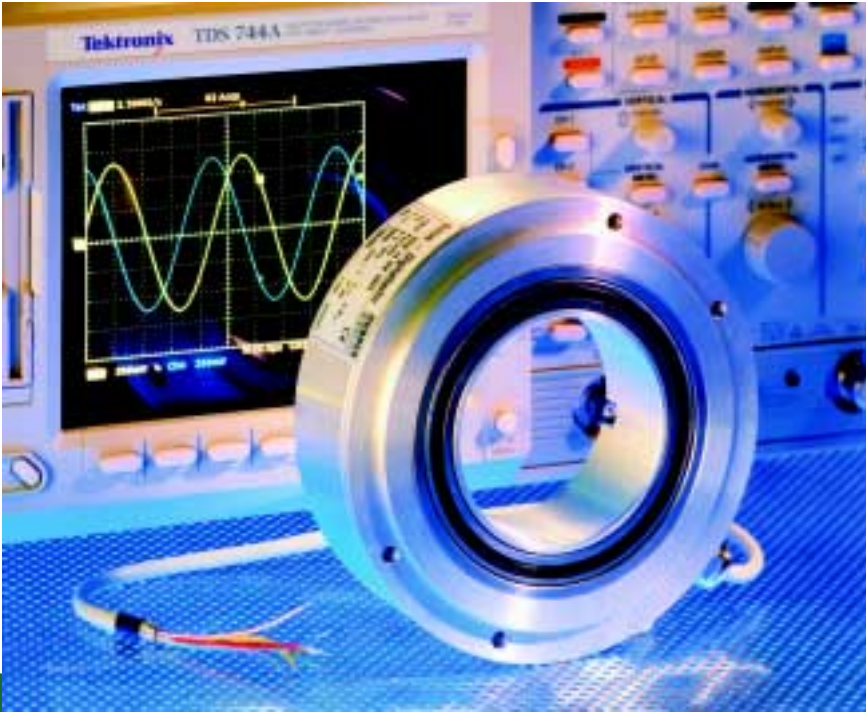

Figure 12: Sinus-Tacho EGS 14 with 1,024 sinewave cycles per turn and large hollow-shaft.
- sinewave encoders with large hollow-shaft (➔ Figure 12).